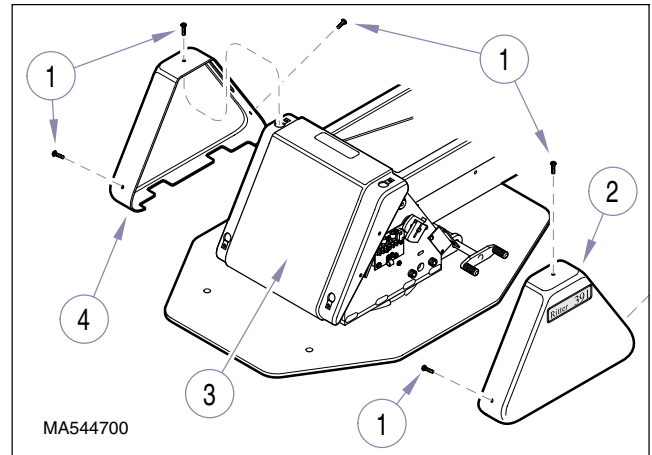

Figure 4-25. Covers Removal / Installation
- (1) Raise Base Up function all the way up.
- (2) Unplug chair power cord from wall outlet receptacle.
- (3) Remove three screws (1, Figure 4-25) and R.H. base cover (2) from center base cover (3)
- (7) While maintaining 45° angle of brake lever (3), push brake cam (5) to force brake shoe (4) firmly against brake disc (6). Then, while holding brake cam (5) firmly in place against brake disc (6), tighten two screws (1) and then two screws (2). Tighten screws to 40 ft-lbs (54.2 N•m).
- (8) Install L.H. base cover (4, Figure 4-25) on center base cover (3) and secure with three screws (1).
- (9) Install R.H. base cover (2) on center base cover (3) and secure with three screws (1).